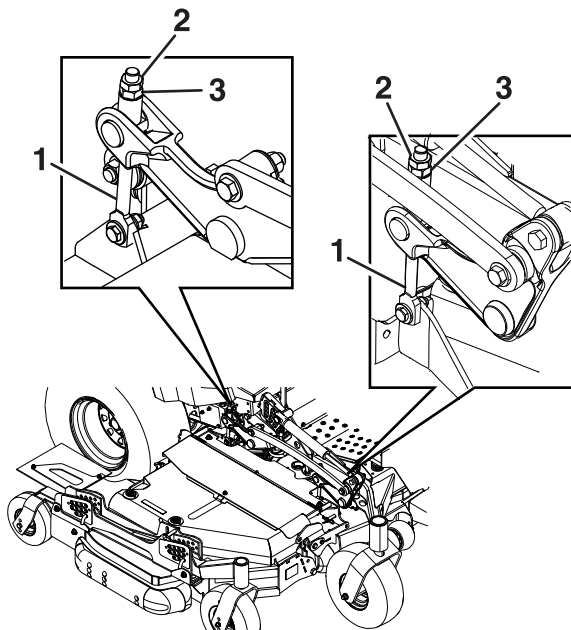

Figure 80
Loosen the jam nuts on the top of each deck adjuster. Fine-tune the adjuster on the front deck-lift assembly by turning it to get the correct height for the left and right, front blade tips on the center deck (Figure 80).
5. If the 4 deck adjusters (Figure 80) do not have enough adjustment to achieve the accurate height of cut with the desired rake, you can utilize the single-point adjustment to gain more adjustment.